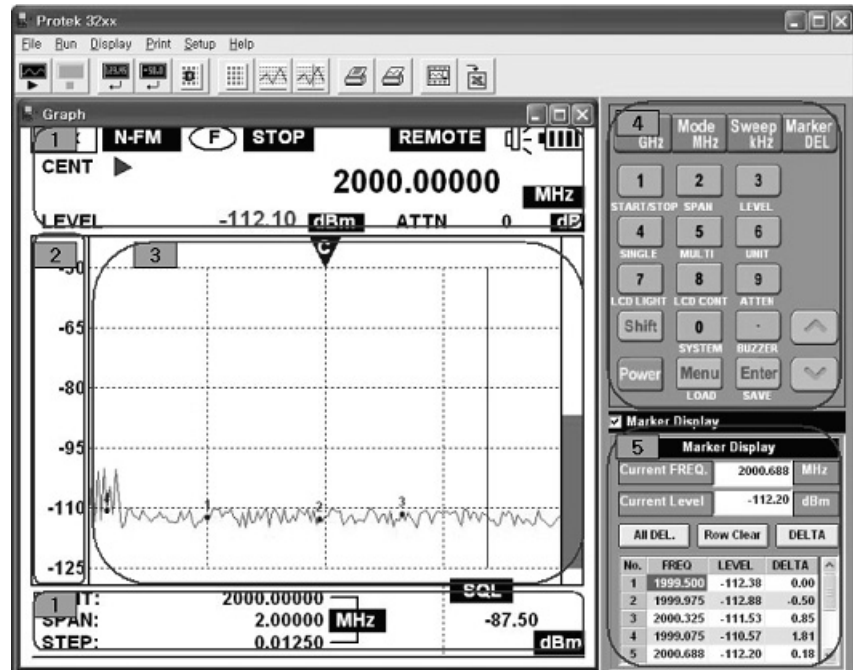

Figure 4.22. Information of Marker of Graph window
- 5) After checking the check box of “Marker Display” item, the Marker information as like the [5] in figure 4.22 is supported.
- 11) Figure 4.22, note 5 is the information of Marker. As mentioned before, in case of that "Marker Display" check box is checking and "Marker" list is selecting it is changed.
- 14) Figure 4.22, note 5 user can get the information that they want using "ALL DEL", "Row Clear" and "DELTA". The "ALL DEL" button could delete all Markers (Max. 10 points) in None mode. The "Row Clear" button is used in case of that selected markers are only deleted